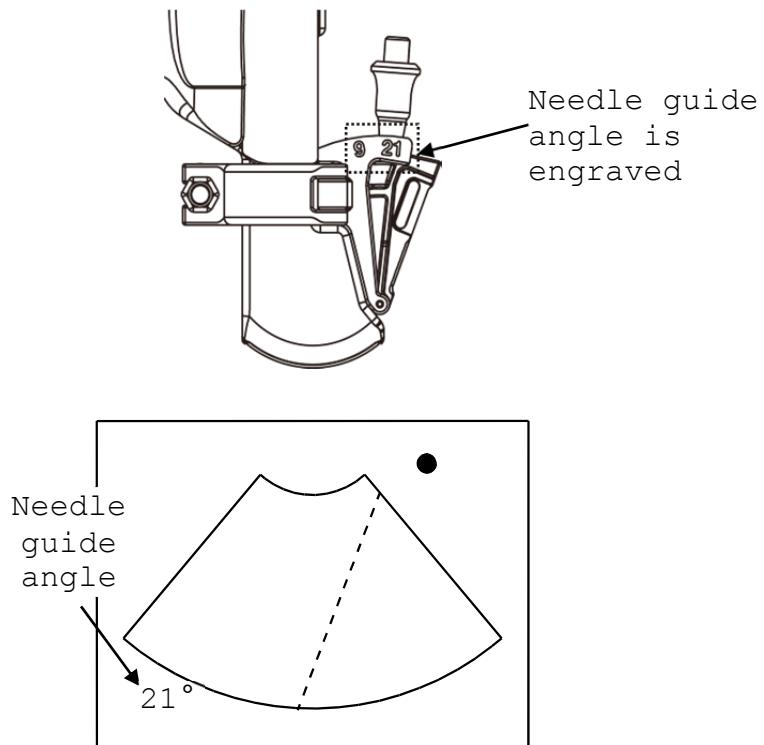

Fig. 3 Needle guide angle
4) Confirm that the needle guide angle corresponds to the angle indicated on the monitor. The needle guide angle is engraved on bracket. (See Fig. 3)